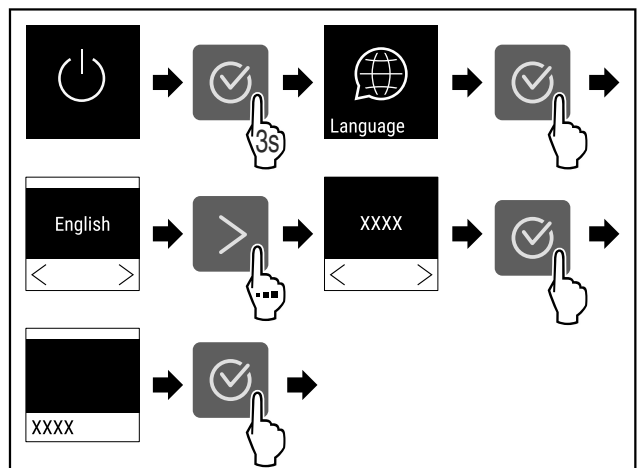

Fig. 54
- ▶ Carry out steps (see Fig. 54).